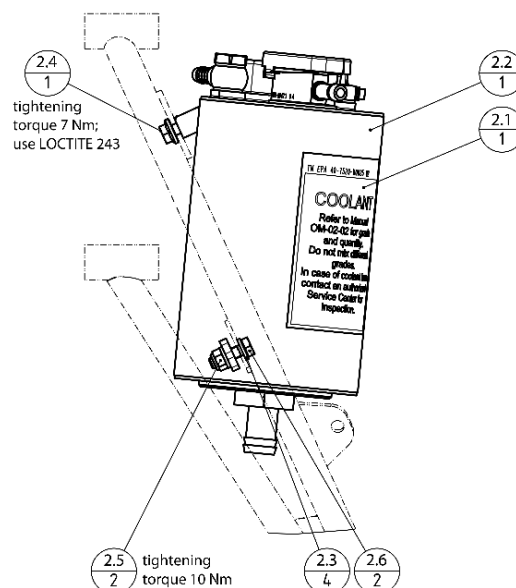
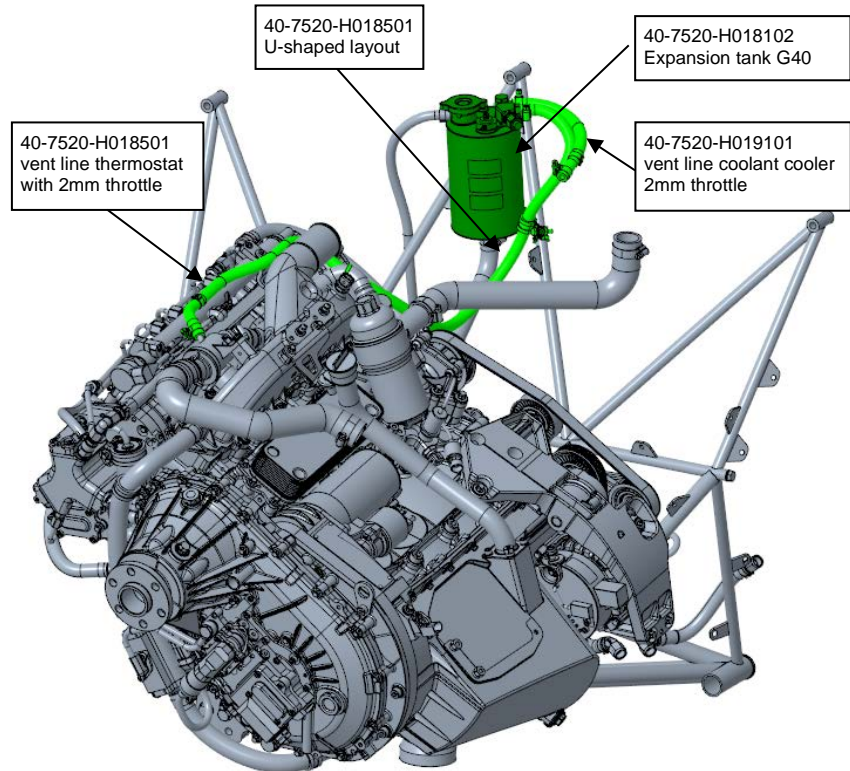

Figure 2: Expansion tank installation
Figure 3: Overview TAE 125-02-114 installation
- a) Install the expansion tank (item 2.2) using the installation set (item 2). Refer to figure 2 for detailed information.
- b) If necessary, install the coolant hose (item 3) between the thermostat and the radiator using two hose clamps (item 10).
- c) Install the radiator vent line (item 4) between the main radiator and the expansion tank using two clamps (item 5). Attach the vent line to the banjo-bolt connector of the expansion tank. Ensure that the arrow labelled on the vent line points towards the expansion tank.
- d) Attach the vent line (item 1) to the thermostat using a clamp (item 5). The throttle, integrated in the vent line, must be located on thermostat side and the arrow labelled on the vent line must point towards the expansion tank. Refer to figure 3.
- e) Route the thermostat vent line towards the expansion tank and attached it to the engine mount above the welded attaching point for the main radiator support to ensure a U-shaped layout (*lowest point below the expansion tank bottom*). Refer to figure 3. Use two clamps (item 9), two washer (item 6) as well as a screw (item 8) and a nut (item 7) to attach the line.